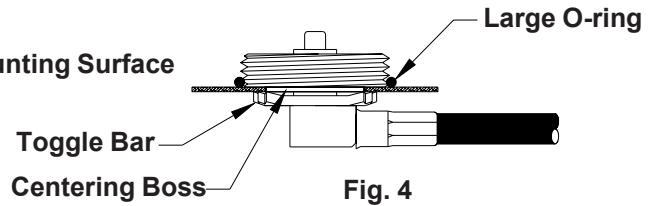

Fig. 4
8. Align centering boss on the underside of the mount adapter in hole and use spanner wrench to tighten mount adapter securely (Fig. 4). Be sure mount does not rotate.